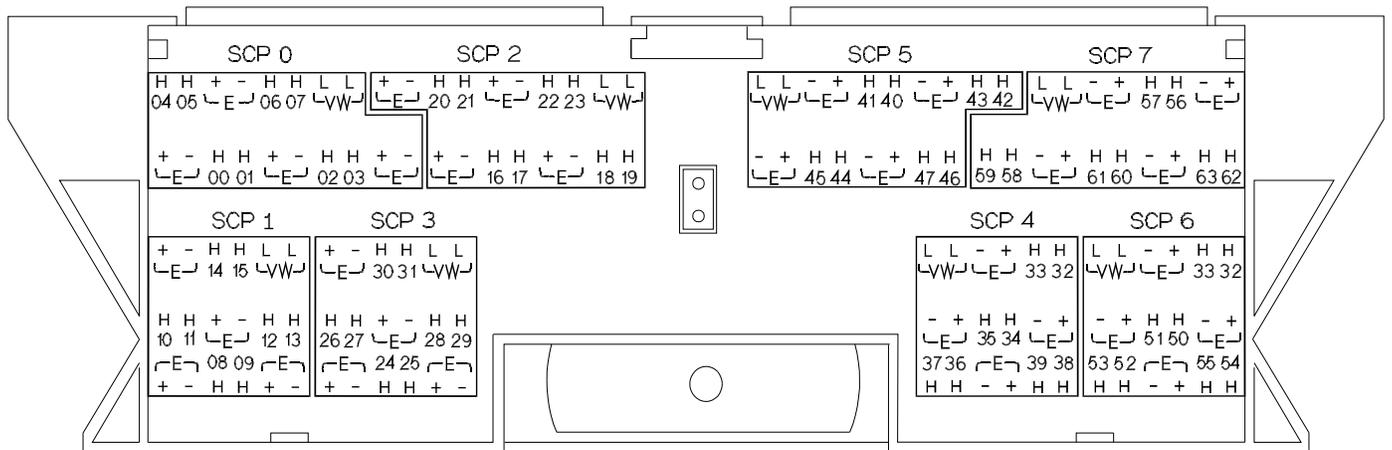

Figure 8. Agilent/HP E1413 Option 16/17 Terminal Module Connections
- For Agilent/HP E1413B and below Terminal Modules, use stickers for Agilent/HP E1413 Option 15/16 SCPs. The connections are shown in Figure 8.